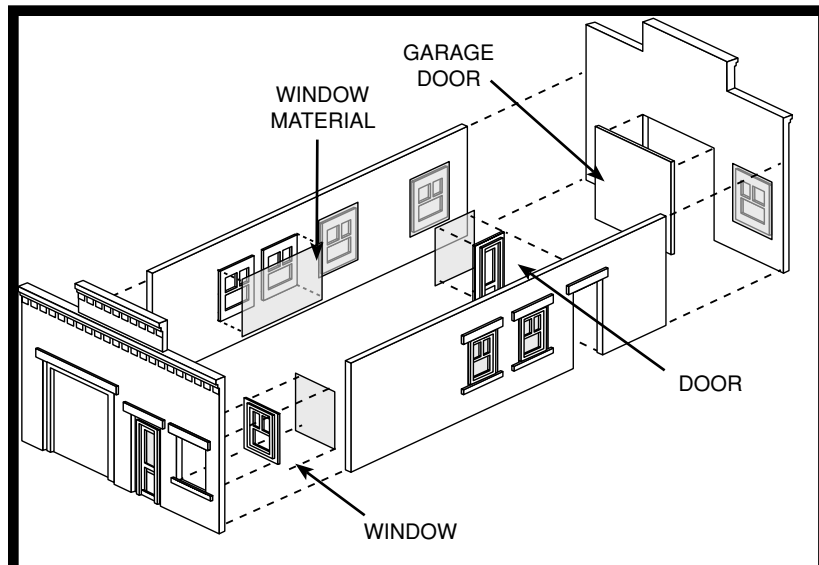

FIG. 1
2. Glue walls together as shown in Fig. 1. Long walls will be glued to the inside edge of short walls.
3. Cut clear window material slightly larger than window frames. Glue windows and doors to inside of walls as shown in Fig. 1. Attach window material to back of window frames as shown in Fig. 1 with very small amount of glue placed around outer edges.